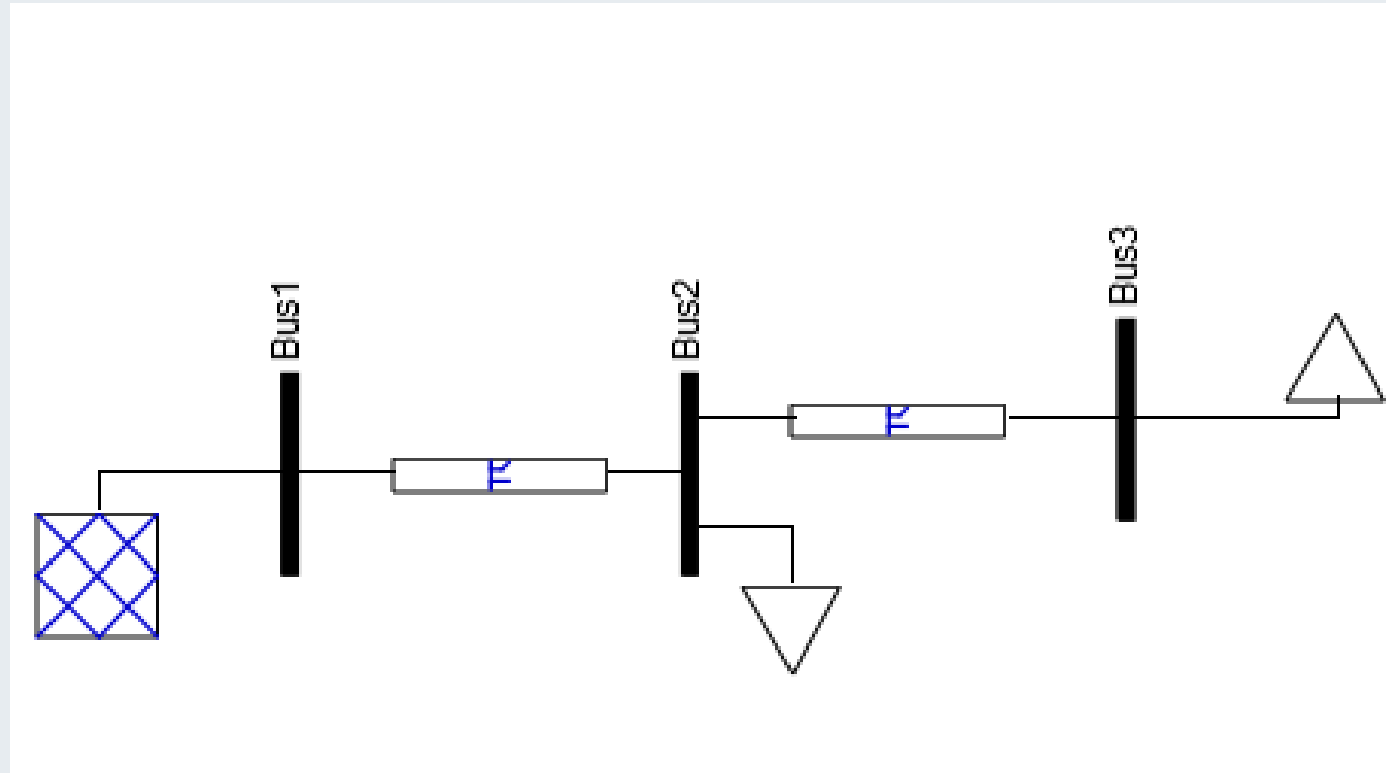

Figure 2: single Line diagram three bus systems
- Solve the problem using optimization software like PSAT or others. The results using PSAT simulation software based on Fig.2 is presented in Table 1.
- The single line diagram using PSAT software for three buses, generator at bus 1, loads at bus 2 and 3 is presented in Fig.2